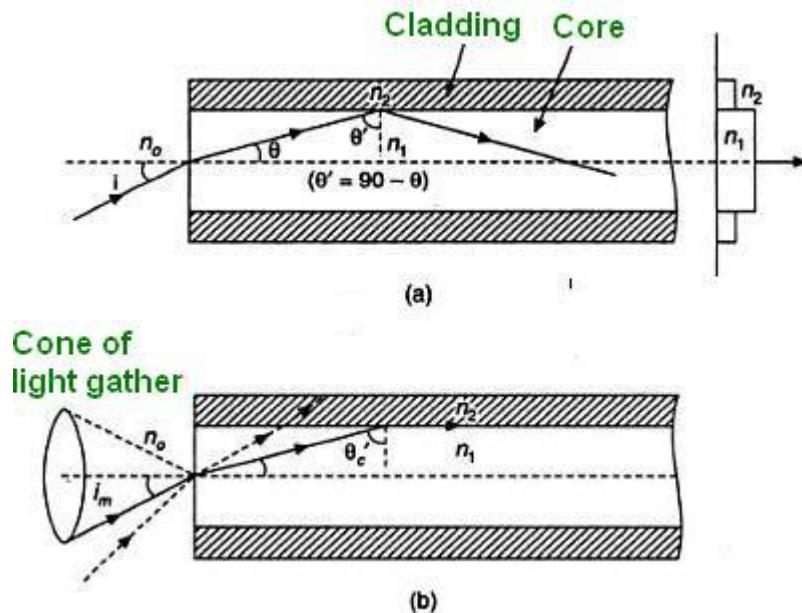

Fig. 5.12. Numerical Aperture in optical fiber
Consider an optical fiber having a core of refractive index n_1 and cladding of refractive index n_2 . Let the incident light makes an angle i with the core axis as shown in Figure 5.12. Then the light gets refracted at an angle θ and fall on the core-cladding interface at an angle where,
and so θ' decreases. Therefore, there is maximum value of angle of incidence beyond which, it does not propagate rather it is refracted into cladding medium (Figure 5.12). This maximum value of i say i_m is called maximum angle of acceptance and $n_0 \sin i_m$ is termed as the numerical aperture (NA). From eqⁿ 2,